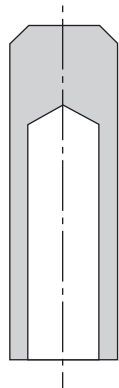

FIGURE 9—Cross Section of Packing Compression Tool
- (1) To install the packing cartridge, place the lower non-extrusion ring over the lower stem and into the packing chamber. Seat the ring by using the packing compression tool shown in Figures 9 and 10.